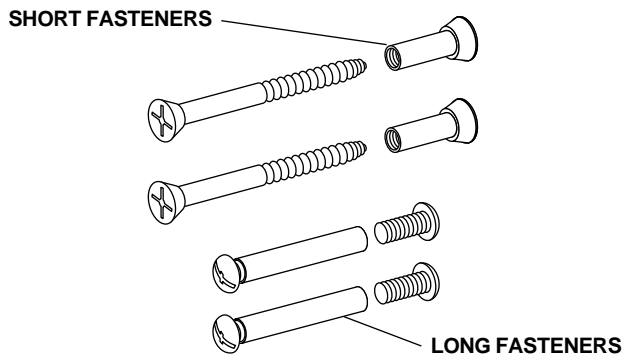

FIGURE 6
- Locate Kit No. 55.2586.00 (Ship Kit, Treatment Console, Double Sink) and remove Kit No. 55.2584.00. Remove the short and long barrel connectors (see Figure 6).